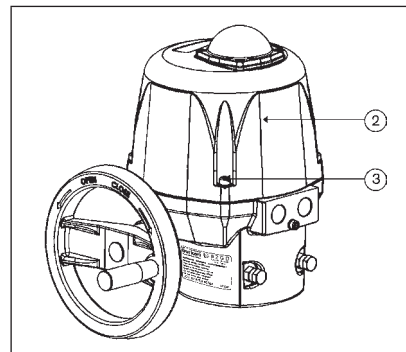

Figure 10: Removing hood
- Remove hood 2 by loosening the four fastening screws 3 (see “Figure 10”).